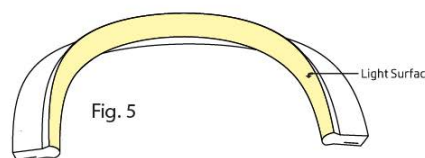

Fig. 5
- Do not put undue stress or pull excessively on the cables or injection connectors. This can cause the connectors to detach or fail. (see Fig. 5)